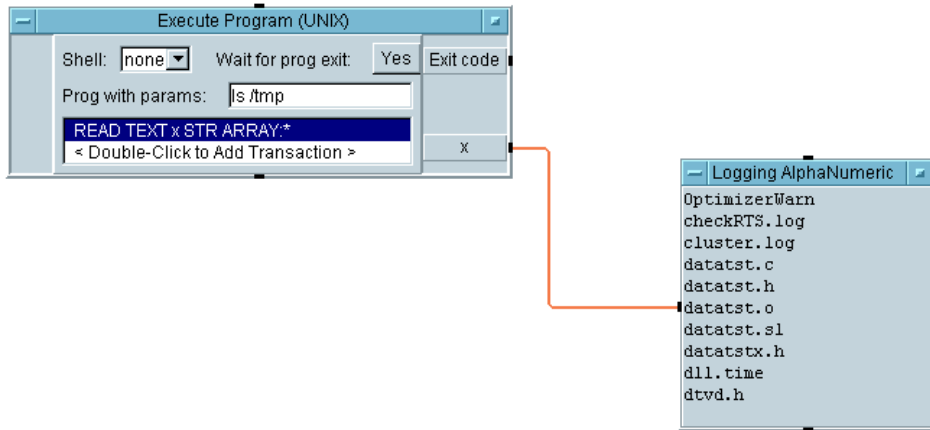

Figure 7-4. Listing the Files in a Directory (UNIX)
7. Run the program. It should look like Figure 7-4.